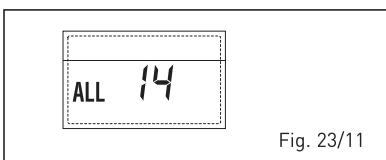

Fig. 23/11
– **ANOMALIA DO VENTILADOR “ALL 15”** (fig. 23/12)